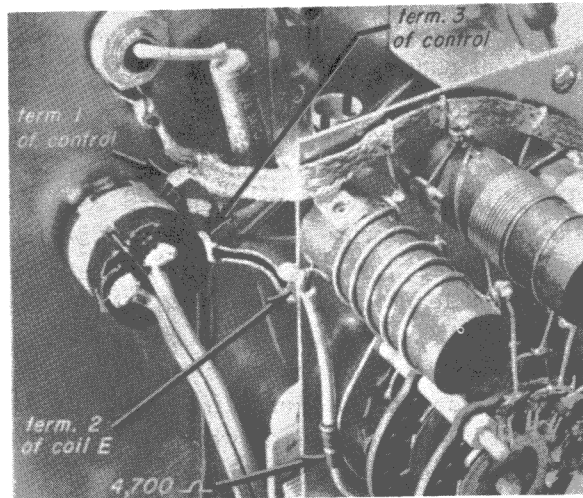

Fig. 21-16
the R F ATTEN control. This terminal is the one closest to the R-F OUTPUT chassis connector. Use the wire to tie the braid from the tuning assembly plate to terminal 1. Insert the other piece of bare wire through the grounding lug on the R-F OUTPUT chassis connector, and tie the end of the braid to this lug. Solder the braid to the terminal and ground lug. Cut off any excess. Figure 21-16 shows how your braid connection should look.
Step 3. Connect and solder the wire from terminal 2 of coil E to terminal 3 of the RF ATTEN control, as shown in Fig. 21-16.